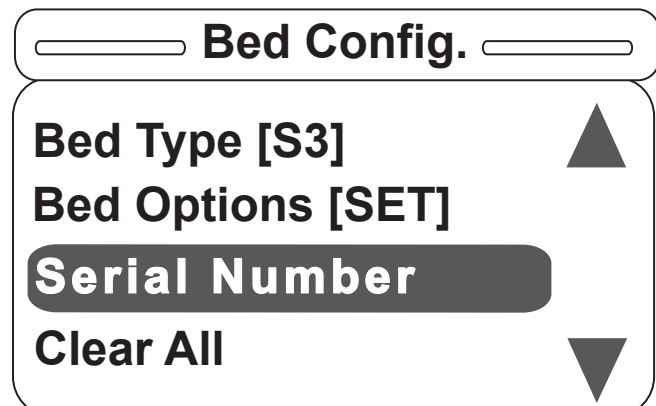

Figure S-18
18. Hitting "Exit" on the footboard panel while in the Bed Options screen will return the user to the Bed Config. main menu as shown in Figure S-18. Note that the user can see the state of the items previously set.